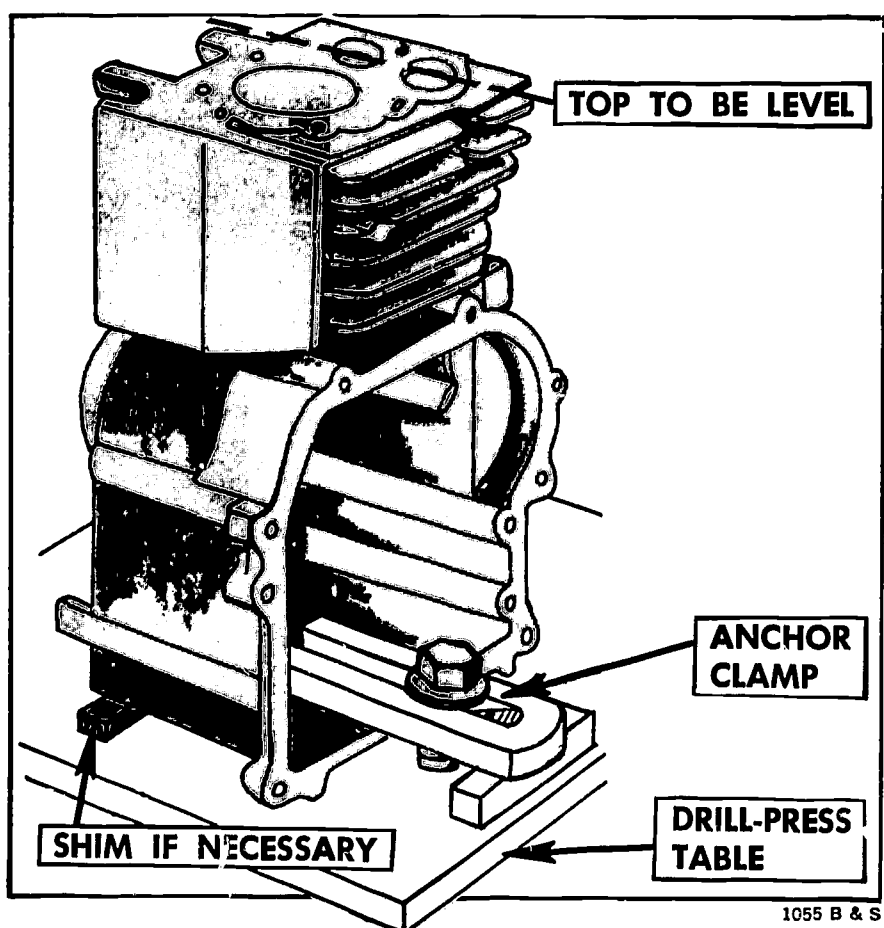

FIGURE 273. Anchor the cylinder block before reboring the cylinder.
1. Anchor the cylinder block (Figure 273).